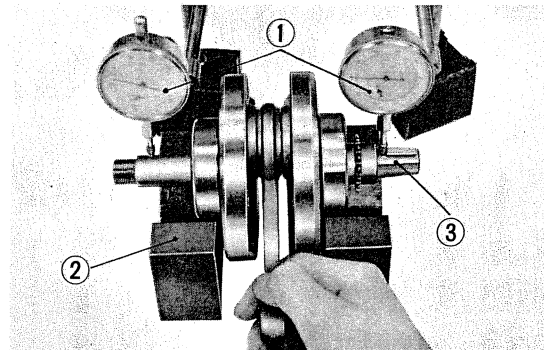

Fig. 84 Crankshaft runout measurement
① Crankshaft
- 1) Measure the runout of the crankshaft. Support the crankshaft at bearing with V block, and check the amount of runout using a dial gauge. (Fig. 84)